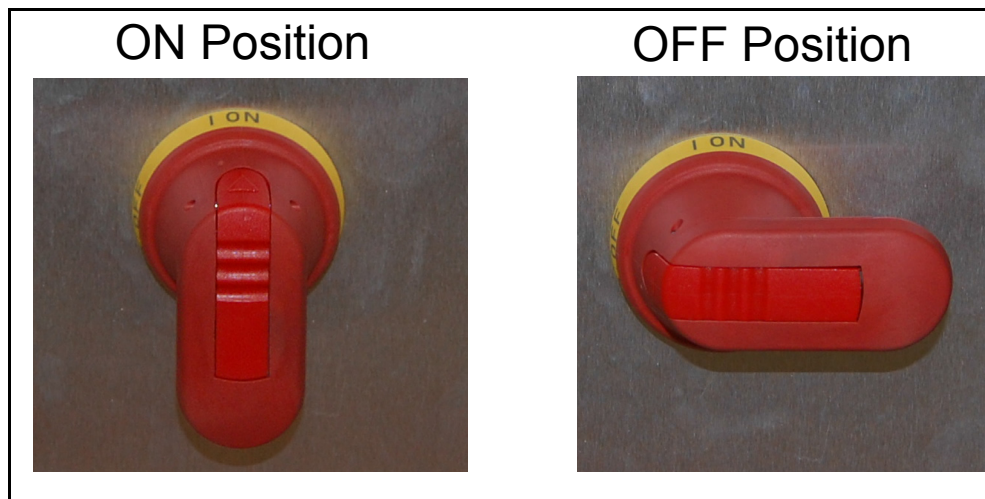

Figure 4-2: Main disconnect switch handle - On/Off positions
1. Confirm that the red handle of the main disconnect switch found within the cabinet is in the ON position (refer to Figure 4-2). If it is in the Off position, as described in “LOTO - Machine maintenance and repair” on page 75, check to see if anyone is working on the machine before attempting to power up.